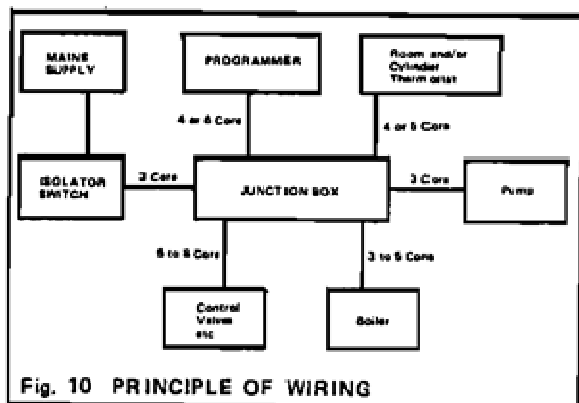

Fig. 10 PRINCIPLE OF WIRING
6. WIRINGS – See Figs. 10, 11, 12 and 13
The principle of wiring up the boiler and site controls is shown in Fig. 10. However, the layout of a particular system will itself govern the most economical location for the junction box and its terminals. Wire up the boiler and system controls as illustrated in Figs. 14, 15, 16 and 17 depending on the type of system installed. The wiring arrangements shown outline only the basic control requirements, and will therefore require on-site interpretation of the various boiler installation requirements.